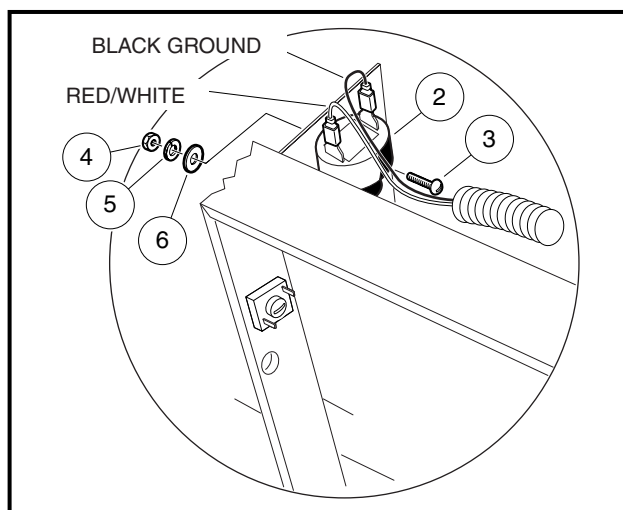

Figure 12-23 Front Reverse Warning Buzzer
5. Disconnect the wires from the reverse warning buzzer (2) (**Figure 12-23, Page 12-19**).
6. Remove the screw (3), nut (4), flat washer (6), and lock washer (5) securing the front buzzer to the vertical frame support.
1. Install the screw (3) through the buzzer (2) bracket tab and frame for front and/or rear warning buzzer, secure with hardware, and tighten to 14 in-lb (1.6 N-m) (**Figure 12-23, Page 12-19**). **See following NOTE.**